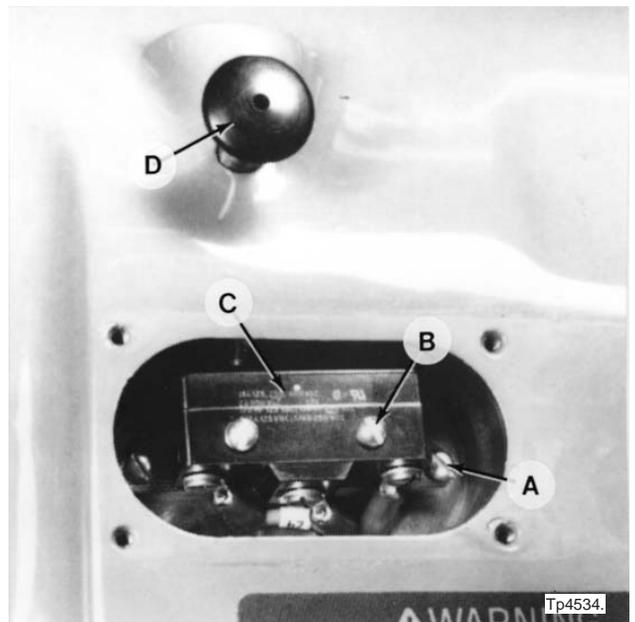

Figure 4.78 - Spindle Lock Pin Limit Switch
31. Remove two screws "B", Figure 4.78, and pull limit switch "C" out of the headstock to gain access to the wire terminals on the limit switch.
13. Connect the three limit switch wires to limit switch “C”, Figure 4.78 .